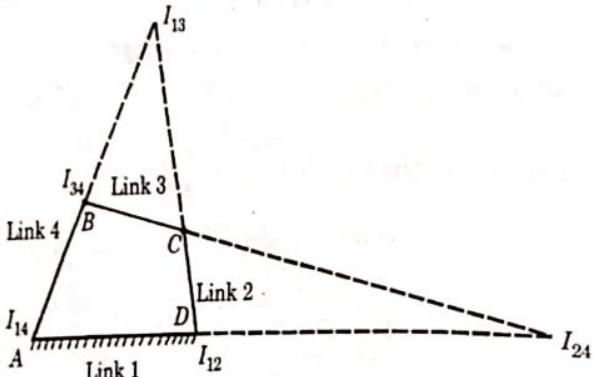

Fig. 1.19.1. Instantaneous centre of rotations in a four bar mechanism.
2. So, there are six instantaneous centres of rotation present in a four bar mechanism. In Fig. 1.19.1, these centres of rotation are shown.